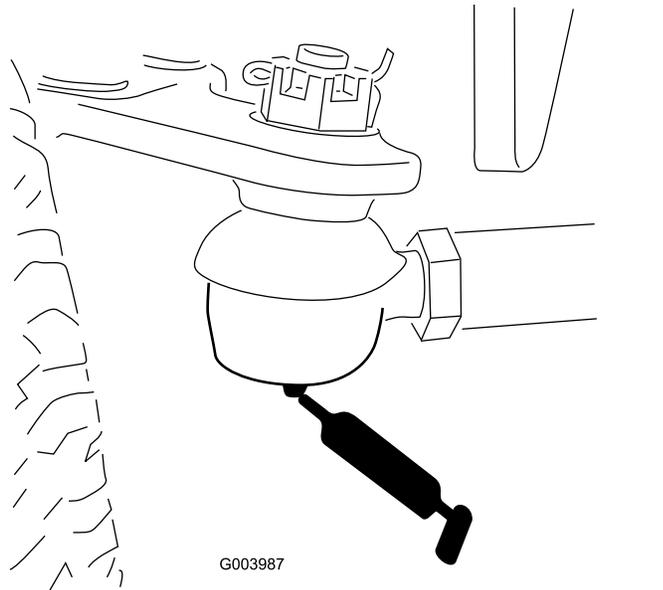

Figure 76
- Rear axle tie rod (2) (Figure 76)